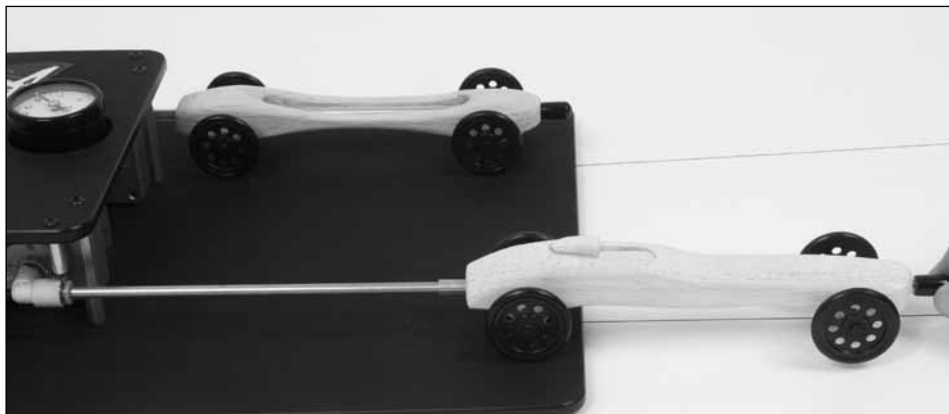

Figure 6
4) Slide the dragsters' launch tubes over the brass tubes on the launcher (Figure 6).